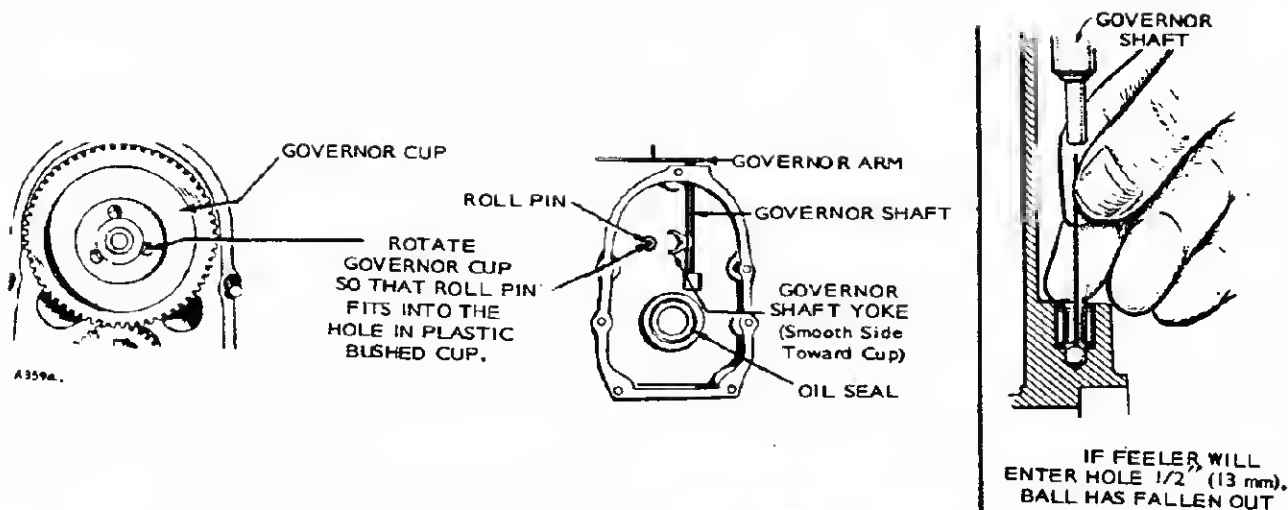

FIGURE 41. GEAR COVER ASSEMBLY
**CAUTION** When installing the gear cover, make sure that roll pin in the gear cover engages the governor cup correctly. Figure 41.
Turn the governor cup so that the plastic bushed hole is at the three o'clock position. The smooth side of the governor yoke must ride against the governor cup. Turn the governor arm and shaft clockwise as far as possible and hold in this position until the gear cover is installed flush against the crankcase. Be careful not to damage the gear cover oil seal. Adjust the roll (stop) pin to protrude to a joint 3/4 inch from the cover mounting surface. See Figure 41.
With the gear cover removed, the governor cup can be taken off after removing the snap ring from the camshaft center pin. Catch the flyballs while sliding the cup off. See Figure 41.